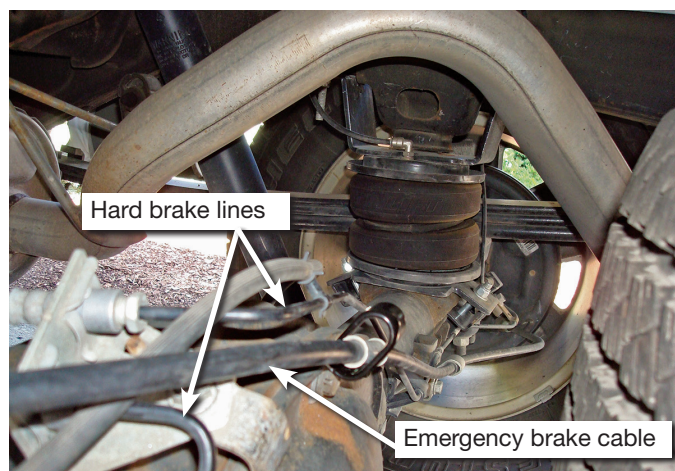

fig. 9
13. Bend the frame clamp slightly to obtain clearance on the hard brake lines mounting to the top of the axle (fig. 9).